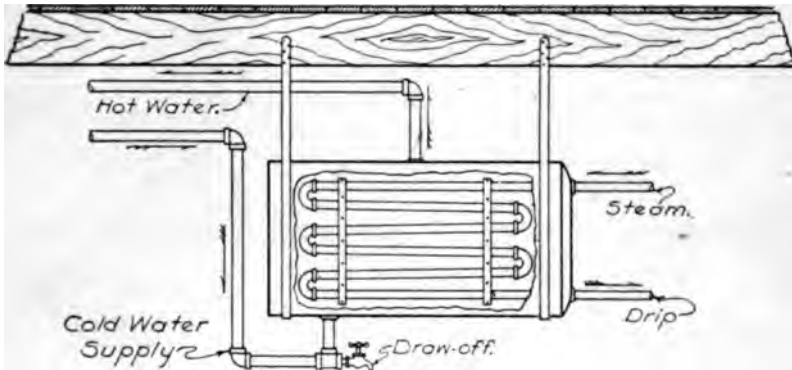

Fig. 80.—Domestic Hot Water Supply—Steam Coil in Boiler.
A. The coil should be fastened vertically in order that the steam will flow in at the top of the coil and the water of condensation will flow out of the bottom. Fig. 80.